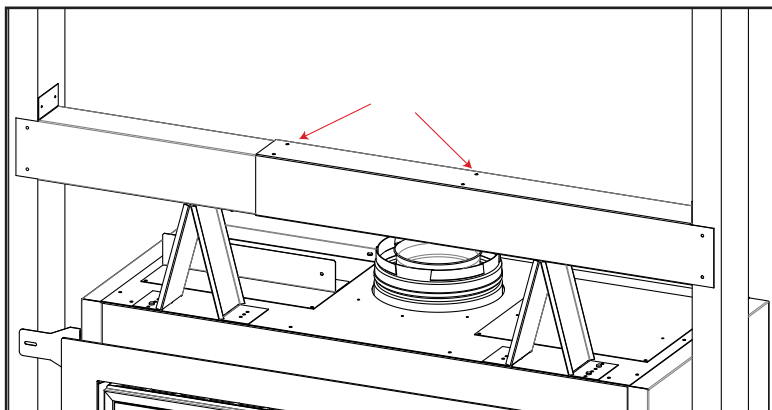

**Figure 27: Steel Stud Assembly**
- Take the two steel stud pieces and slid them into each other. The flanges of each piece should be at the end of the assembly, as well as facing upwards as shown in Figure 27.